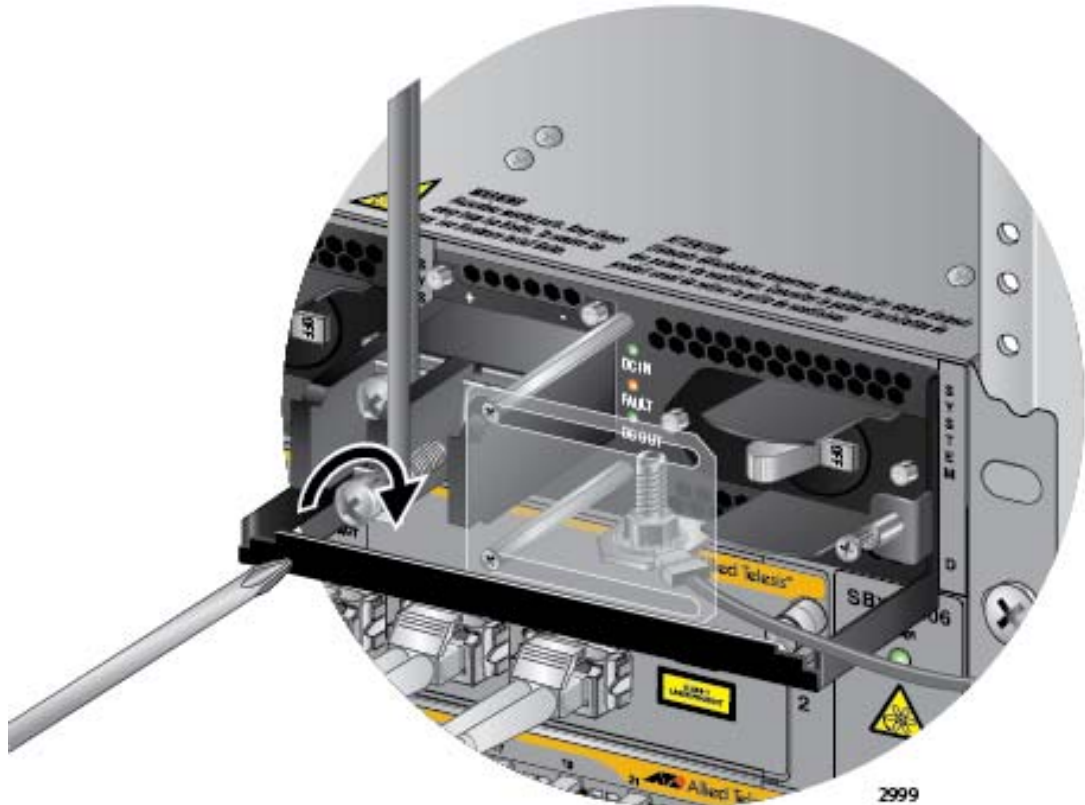

Figure 125. Connecting the Negative Lead Wire
5. Wrap the negative lead wire clockwise around the remaining terminal screw and secure the screw and wire to the negative terminal connection on the terminal block with a #3 Phillips-head screwdriver, as shown in Figure 125 on page 185. The negative terminal is on the right.